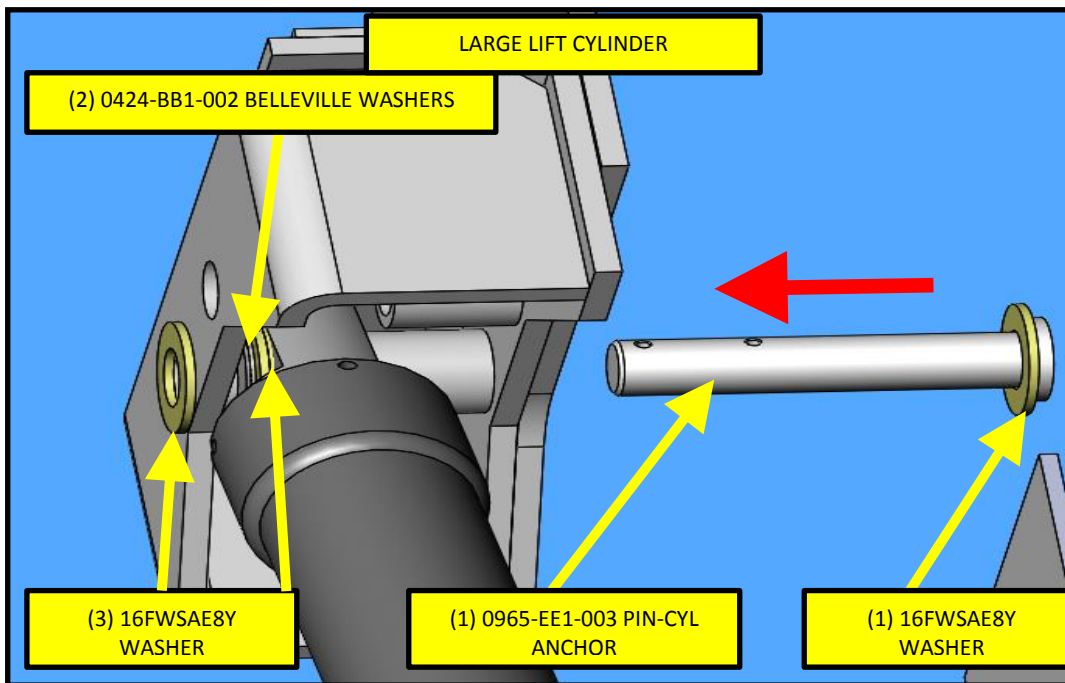

FIG. 8-2
- a. Locate (4) 16FWSAE8Y washers and (2) 0424-BB1-002 Belleville washers, then slide 0965-EE1-003 pin-cyl anchor into place. Refer to FIG. 8-2.